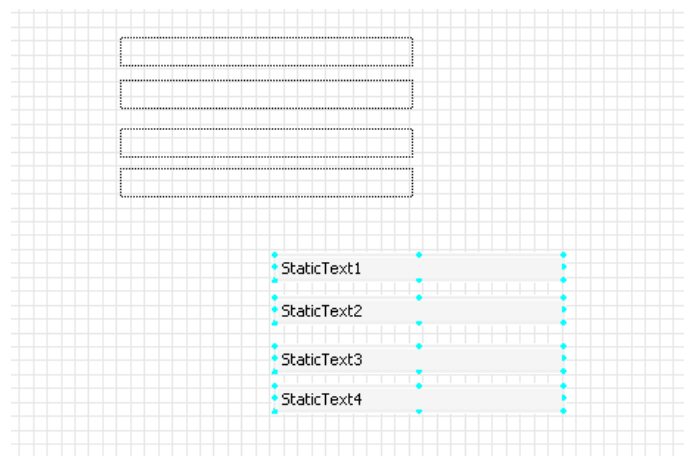

Fig 16: Moving Several Components Together
- Hold down the SHIFT key and DRAG anywhere on the page except on any control (see fig 16).